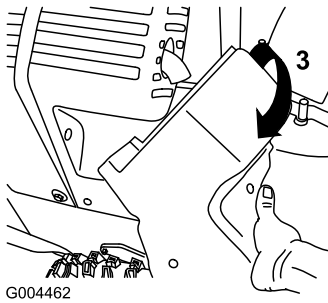

Figure 45
3. Remove the fasteners on the right belt cover, then remove the cover in the sequence shown in Figure 45.